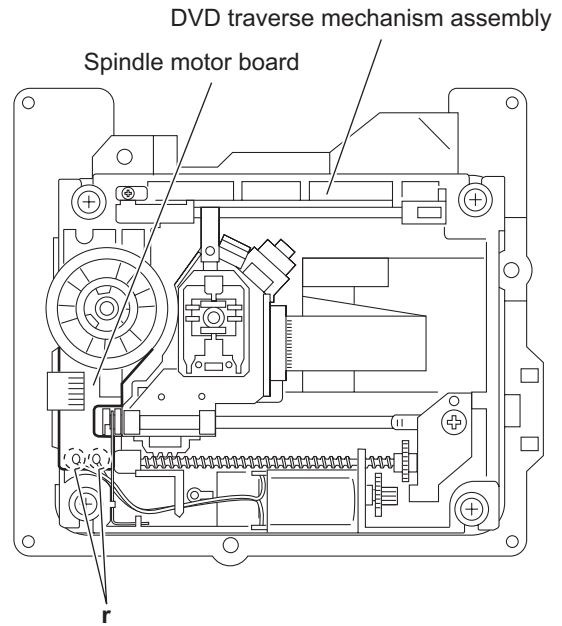

Fig.16
3.3.9 Removing the spindle motor board (See Figs.16 and 17)
- From the top side of the DVD traverse mechanism assembly, remove the wires from the soldered sections **r** on the spindle motor board. (See Fig.16.)